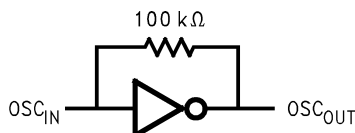

Figure 1.
- \*\*\*  $50\Omega$  termination is often used on test boards to allow use of external reference oscillator. For most typical products, a CMOS clock is used and no terminating resistor is required.  $OSC_{IN}$  may be AC or DC coupled. AC coupling is recommended because the input circuit provides its own bias. (See Figure 1)